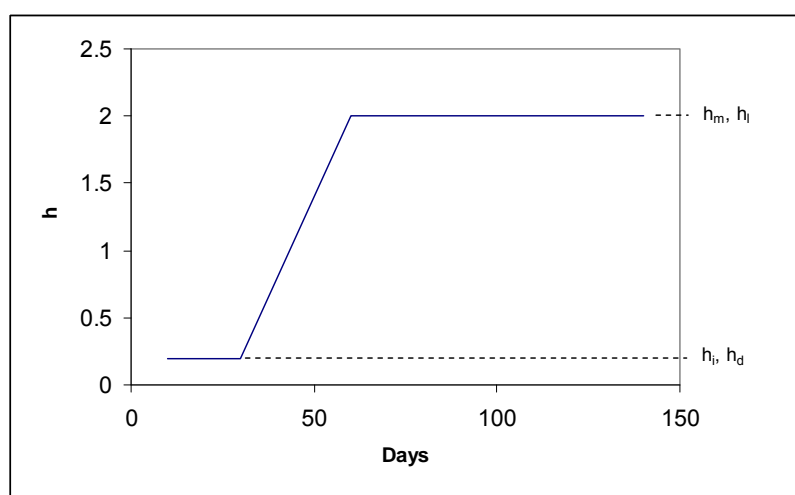

Figure 6. Example of time varying mean maximum plant height as specified in the Growth Stage Table.
7. Plant height (h) - maximum plant height during the growth stage period of calculation (ft or m). Values are specified for each growth stage (Figure 6, Table 1). **Note that the same values are used for the Ini-Dev stages and Mid-Late stages.** This information is used by LAWS to compute the value of KC_{max} used in the dual crop coefficient method. See **Technical Reference Section**.